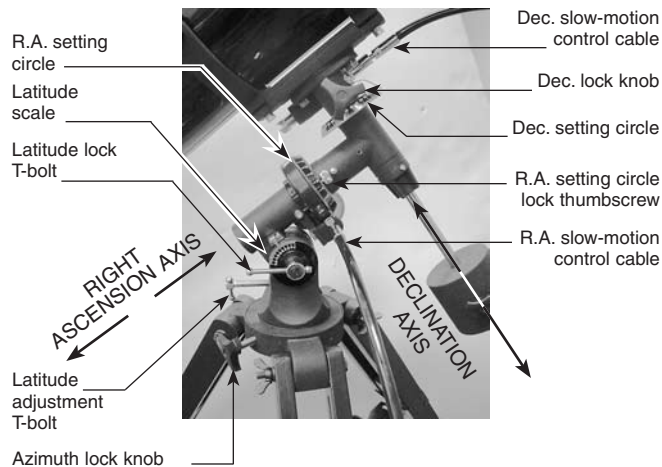

Figure 2. The SpaceProbe 130 ST's equatorial mount.
6. Orient the equatorial mount as it appears in Figure 2, at a latitude of about 40° , i.e., so the pointer next to the latitude scale (located directly above the latitude lock T-bolt) is pointing to the mark at "40." To do this, loosen the latitude lock T-bolt, and turn the latitude adjustment T-bolt until the pointer and the "40" line up. Then retighten the latitude lock T-bolt. The declination (Dec.) and right ascension (R.A.) axes may need re-positioning (rotation) as well. Be sure to loosen the RA and Dec. lock knobs before doing this. Retighten the R.A. and Dec. lock knobs once the equatorial mount is properly oriented.
When you look at the night sky, you no doubt have noticed that the stars appear to move slowly from east to west over time. That apparent motion is caused by the Earth’s rotation (from west to east). An equatorial mount (Figure 2) is designed to compensate for that motion, allowing you to easily “track” the movement of astronomical objects, thereby keeping them from drifting out of the telescope’s field of view while you’re observing.